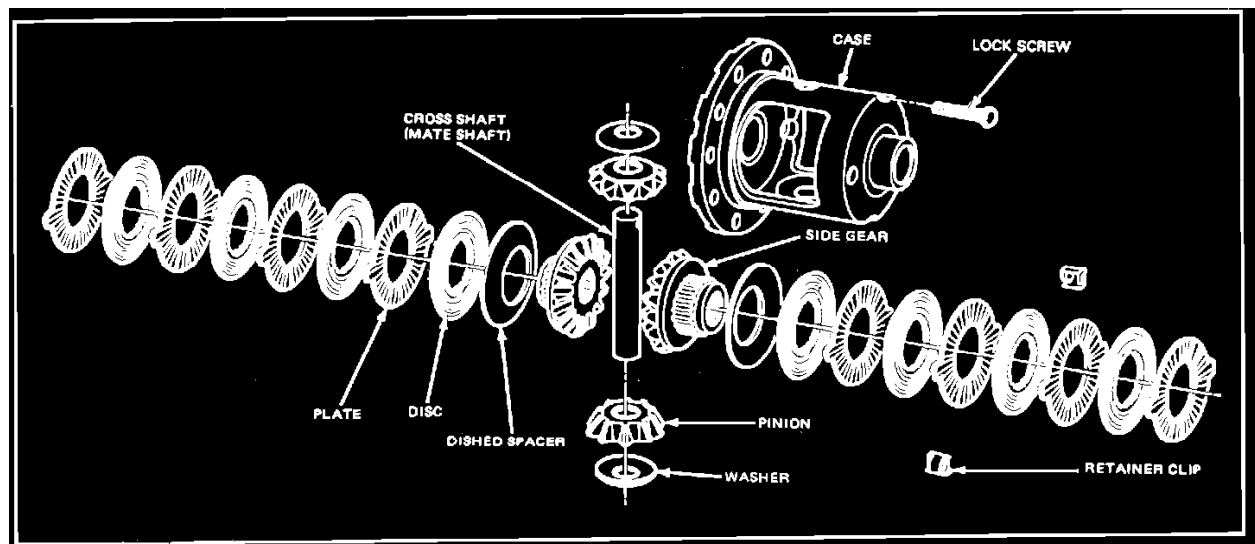

Fig. 13 Dana Trac-Lok locking differential exploded view
3. Using suitable drift, remove roll pin retaining cross pin, then drive out cross pin with hammer and suitable drift, **Fig. 13**.